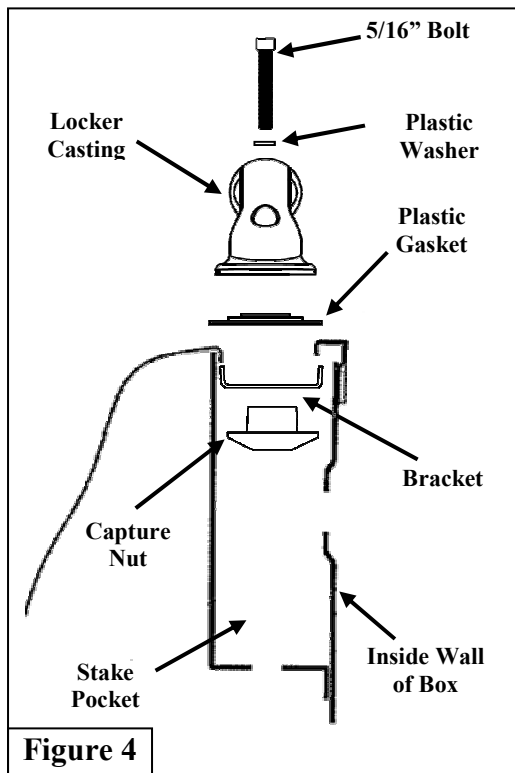
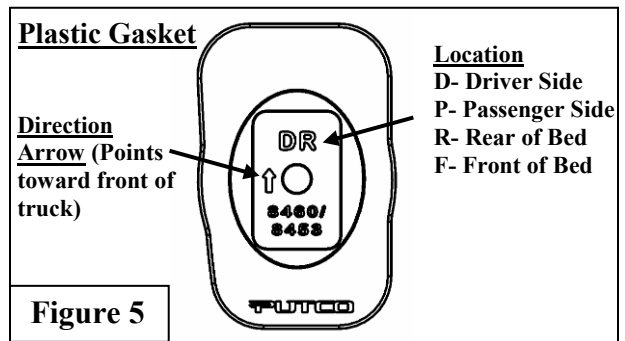

Figure 4
Figure 5
9. Assemble the mounting hardware on all the locker end castings in order as shown (Figure 4). **Note: Each plastic gasket goes to a specific stake pocket hole that is marked on the plastic gasket. Refer to (Figure 5)**
14. Once both locker end castings are in the holes, verify that front bracket is in the orientation shown in (Figure 4)
15. Pull straight up on the front locker end casting so that the bracket and nut maintain contact and correct positioning with the bed as shown in Figure 4.
16. Rotate the plastic gasket until it's correctly oriented. **Arrow on plastic gasket faces toward the front of truck. See (Figure 5)**